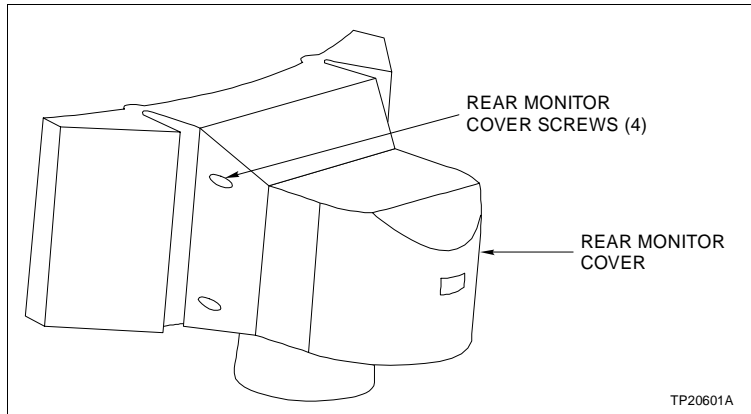

Figure PR60-1. Rear Monitor Cover
2. Use the long Phillips head screwdriver to remove the four rear monitor cover screws (Fig. PR60-1).